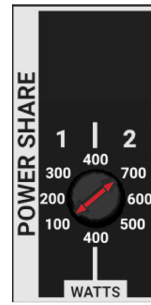

Fig. 5
- **Fig 5** - CLA802 Power Share selection arrow pointer is 400W CH 1 / CH 2